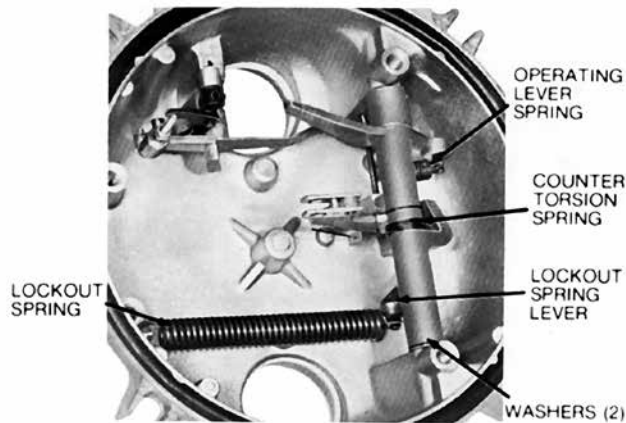
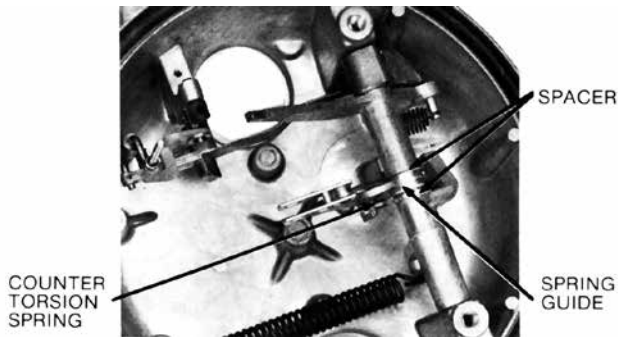

Figure 41a. View of head mechanism
Figure 41b. View of head mechanism
7. Figures 41a and 41b show the head assembly as it appears after the operating mechanism has been removed. Unhook the lockout spring and operating lever spring.
Note: In mid 1984 the counter torsion spring configuration changed. Figure 41a shows the old style, Figure 41b shows the new style. New torsion spring parts are interchangeable with old design.